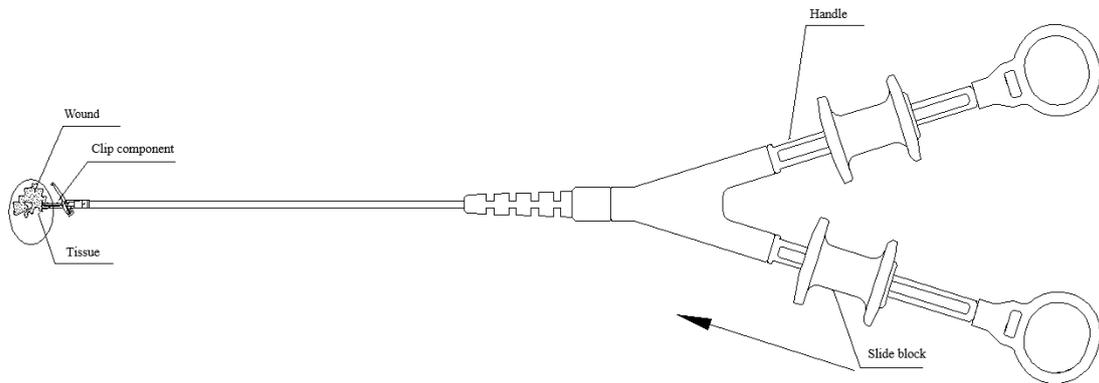
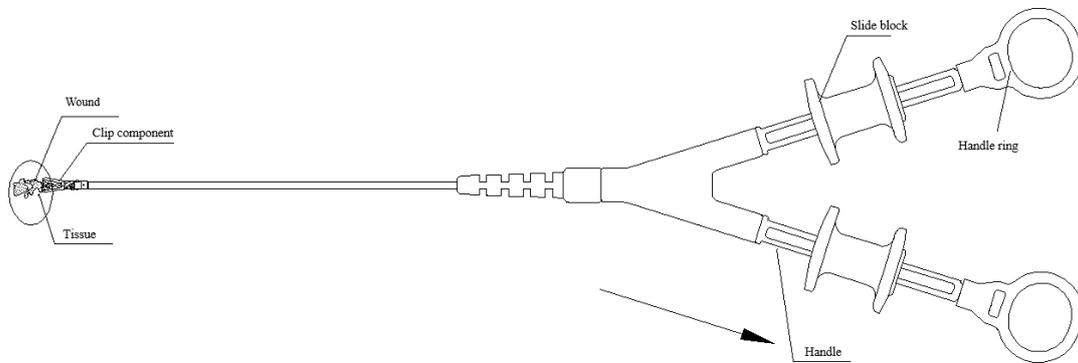

Fig6 Open the other clip
Fig 7 Clamping
6. According to the third step, operate the slide block on the second handle to open the clip on the corresponding side (as shown in Fig 6); then according to the fourth step, complete the clamping of the clip on the tissue. (as shown in Fig 7)